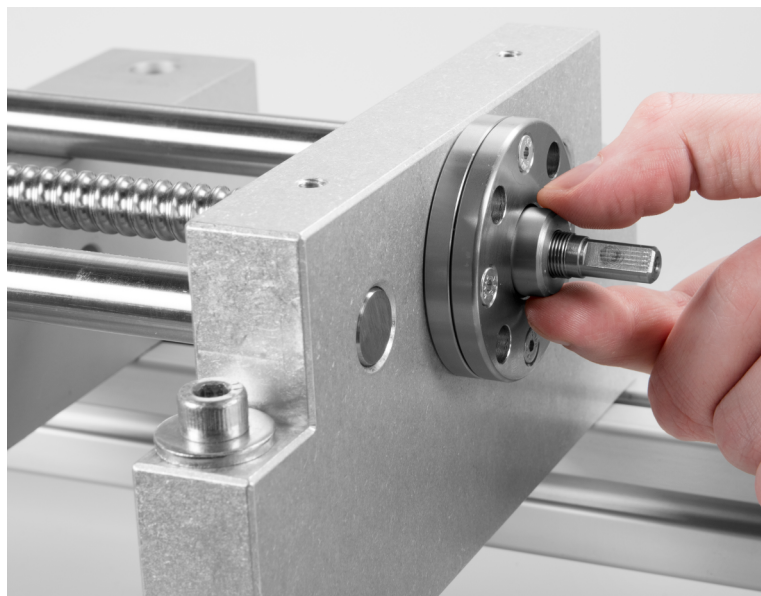

Figure 34: Removing the spacer from the center of the flange.
28. Remove the spacer from the center of the flange with your fingers, as shown in Figure 34. Set it aside for the moment.